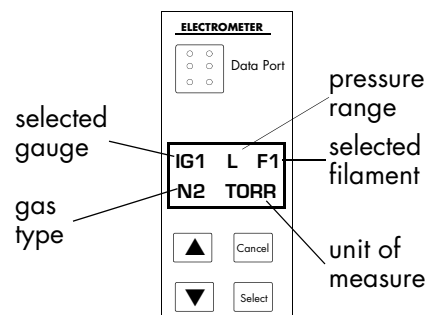

Figure 4-2 Electrometer Module with IG1 Status Menu on the Display
- The IG1 and IG2 Status Displays show the pressure range, filament selection, unit of measure, and gas type currently selected for the Stabil-Ion Gauges. See Figure 4-2.